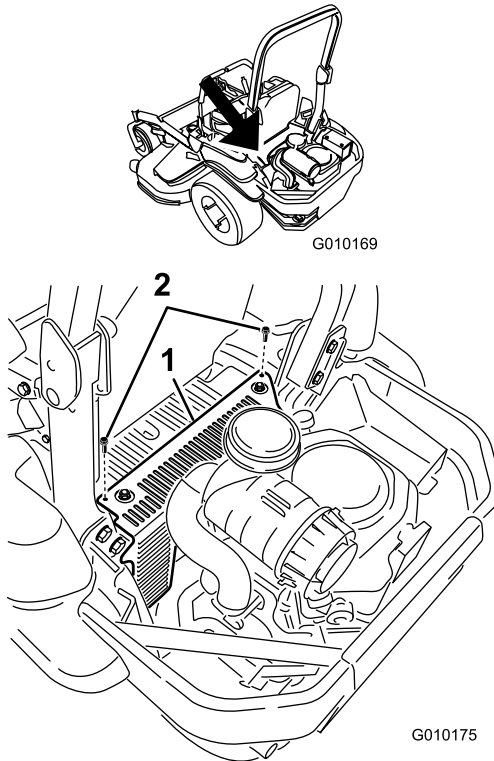

Figure 52
3. Remove two bolts securing the hydraulic unit shroud and remove it Figure 52. This gives you access to the front spark plug.
5. Install the lefthand hydraulic unit shroud (Figure 52).